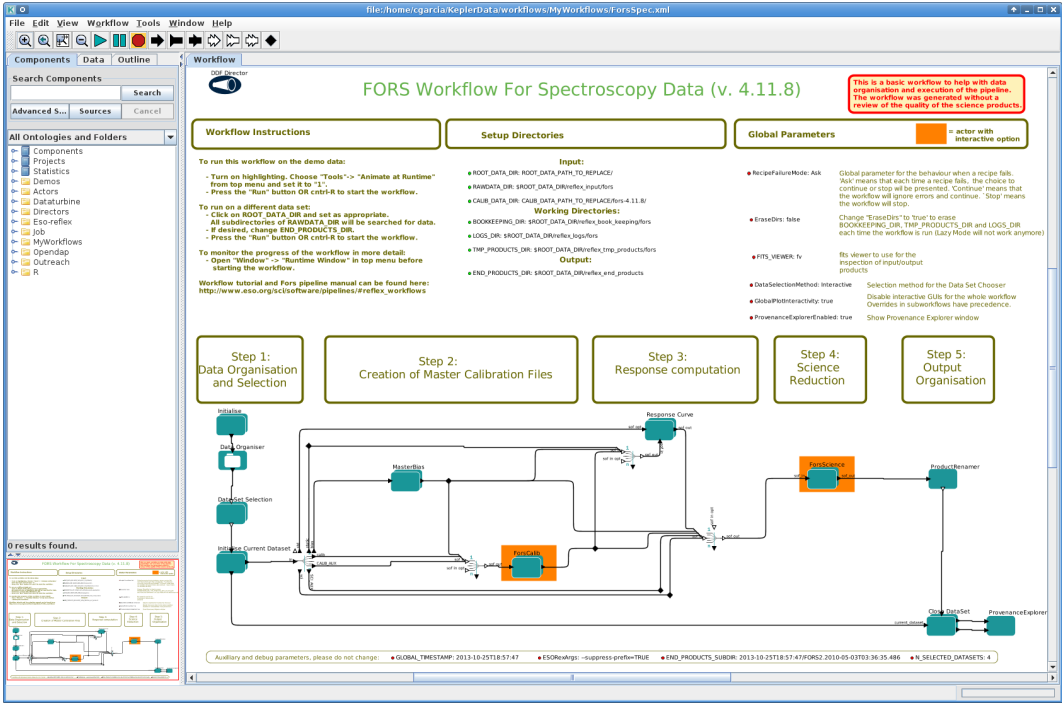

Figure 4.2: *FORS2 workflow general layout.*
2. Now open the FORS2 workflow by clicking on File -> Open File, selecting first fors-4.12.5 and then the file ForsSpec.xml in the file browser. You will be presented with the workflow canvas shown in Figure 4.2. Note that the workflow will appear as a canvas in a new window.